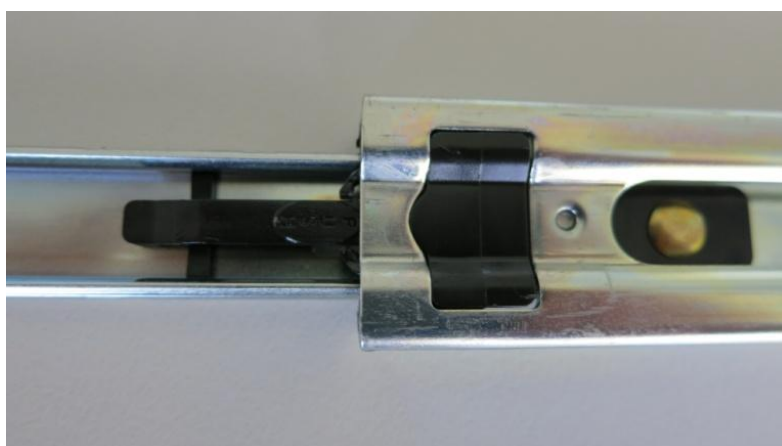

Figure 158 – Separate Rack Slides
2. Refer to Figure 158. Separate the slide rail assembly by pressing the black plastic clips in the slide rails to remove the inner section of the rail.